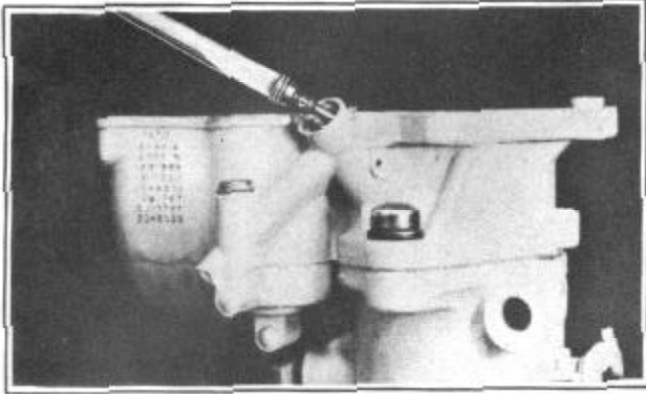

FIGURE 14
7. Remove the pump jet plug and gasket assembly and pump jet, Figure 14.